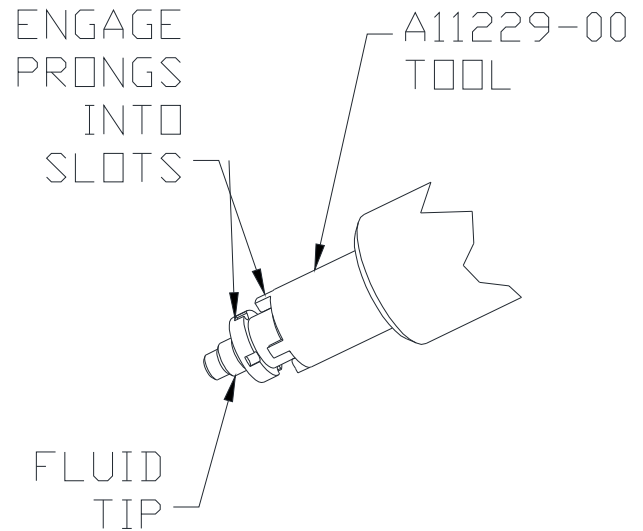

Figure 28: Fluid Tip Removal
To remove the fluid tips, use the tip/tube removal tool (A11229-00). Insert the tool over the tip and engage the four (4) prongs of the tool into the four (4) slots in the tips (see Figures 28 and 29).